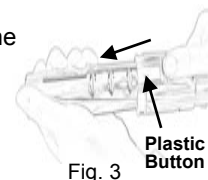

Fig. 3
- Push forward on the plastic button and pull the inner chrome tube outward. (Fig. 3)